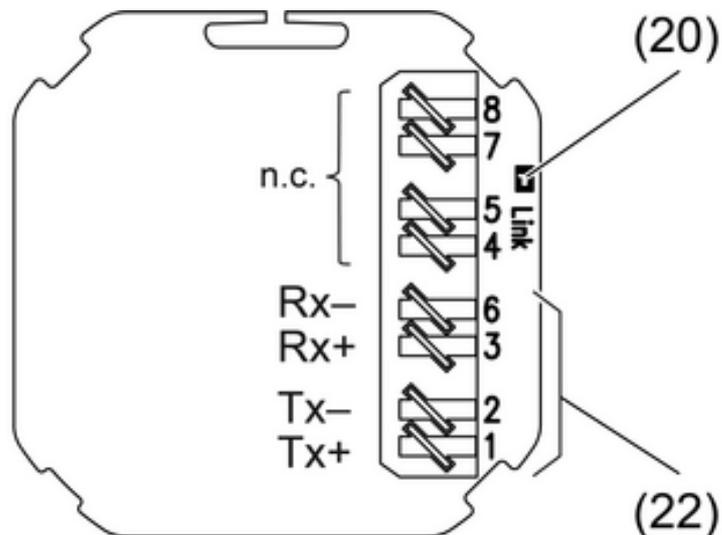

Figure 6: IP connection assignment
(22) Connection terminal
- Using an LSA tool, connect the Ethernet wires to the crimp terminals (22) of the IP module. Observe connection assignment (figure 6).